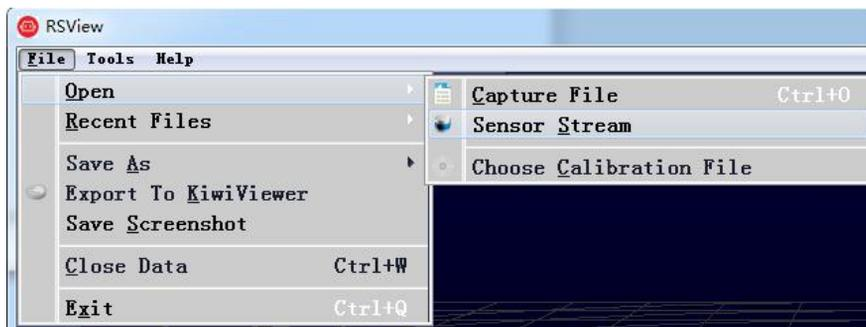

Figure C-1: RSView Open Sensor Stream.
3. Click on **File > Open** and select **Sensor Stream** (Figure C-1).